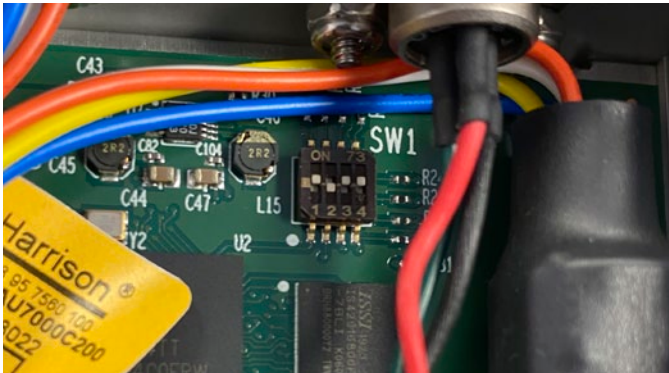

FIGURE 6-10: SERIAL FIRMWARE UPLOAD MODE
1. Make a connection from the host computer to the Serial port on the ECM. Verify that the ECM’s dip switches have been adjusted correctly for the serial firmware upload to be possible (see Figure 6-10).